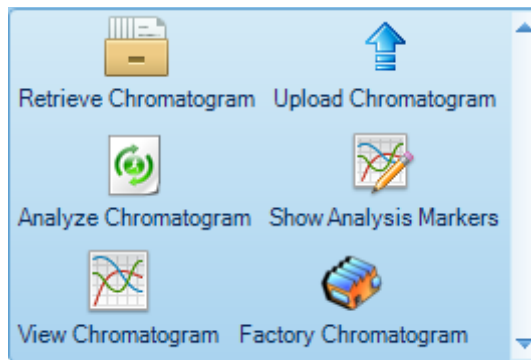

Figure 4-27: Additional functions of Chromatogram Ribbon
- **Additional Functions** -The icon and arrows directly to the right of the *Action* icon are used to access a variety of functions as seen in Figure 4-27. The selection of the desired function can be performed by pressing the up or down arrows to the left of the icon. As an alternative, all of the icons can be viewed simultaneously by pressing the bottom arrow.